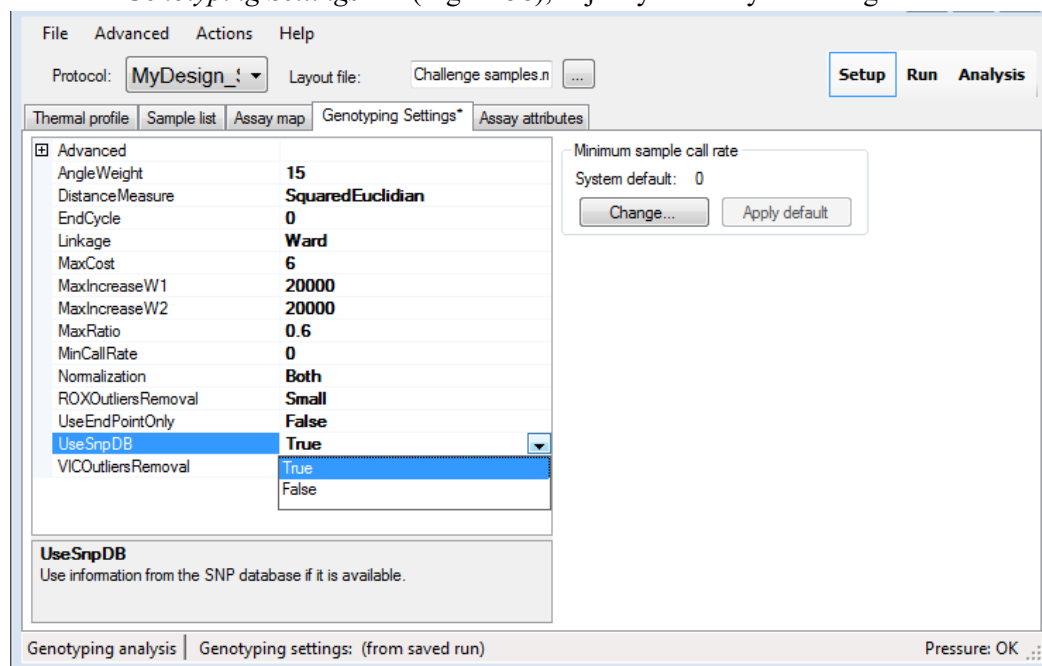

Figure 58. Genotyping Settings tab.
- From the *Genotyping Settings* tab (Figure 58), adjust your analysis settings as needed.